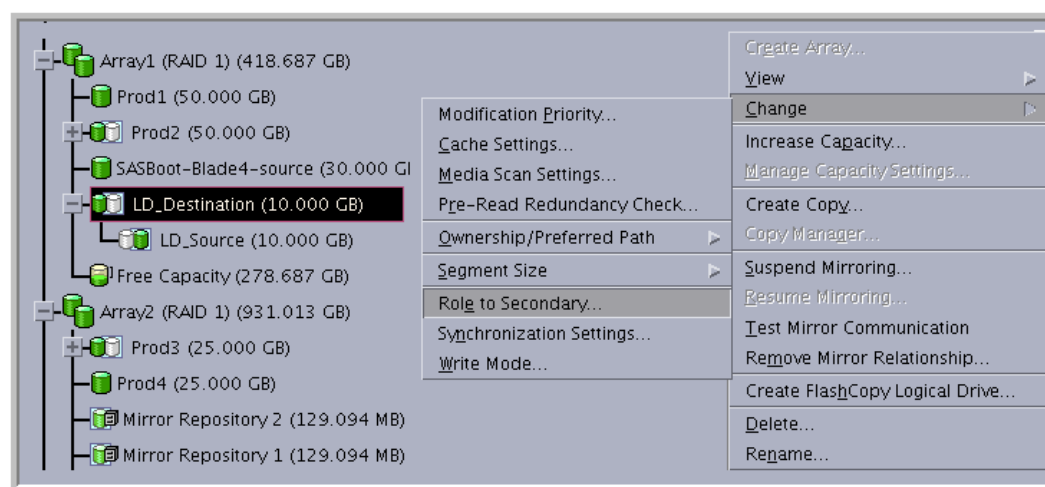

Figure 5-57 Change role: primary to secondary
1. Select the primary logical drive in the logical view. Then, select **Logical Drive** → **Remote Mirroring** → **Change** → **Role to Secondary** as shown in Figure 5-57. (Or, right-click and select **Change** → **Role to Secondary** from the pop-up menu.)